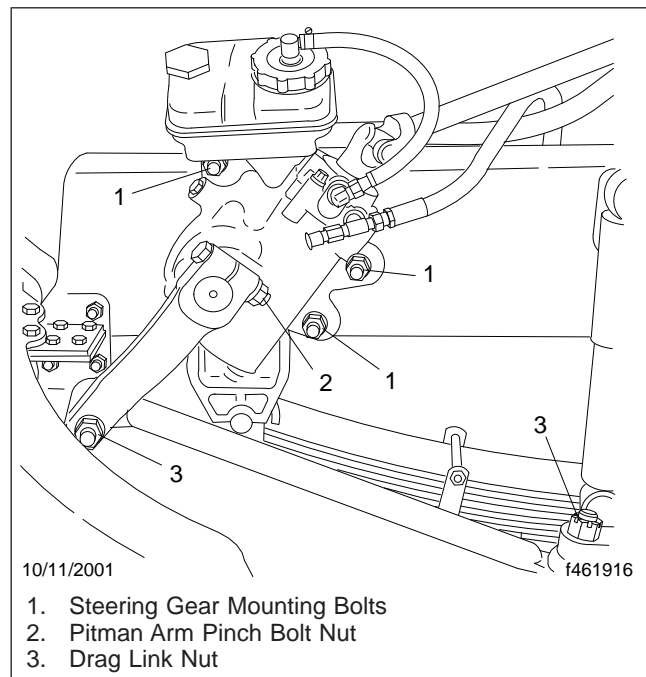

Fig. 11.11, Integral Steering Gear Fasteners
- 5.1 Inspect tie rods, steering arms, and the drag link for signs of looseness (i.e., shiny spots or rust tracks). See **Fig. 11.11**.